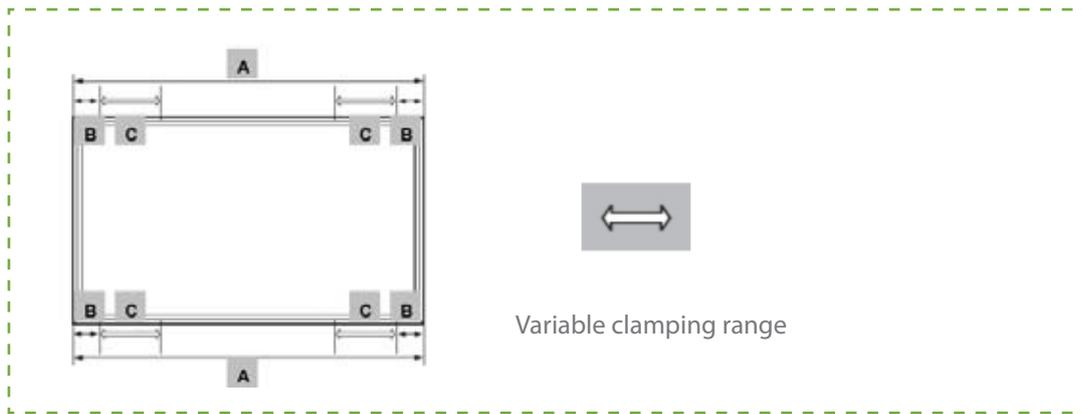

Figure 6. Permitted clamping locations with clamp. For exact dimensions for a given module series, see table 1 (below).
3. Slide bolts through groove on the supporting bars next to the locations where the 4 clamps are to be fastened. The module may be clamped only in the permitted clamping areas on the long edge of the frame. For exact locations on the frame refer to figure 6 in conjunction with table 1 below.
Table 1. Use in conjunction with figure 6 to determine permitted clamping locations for a given module series for clamping with clamps.